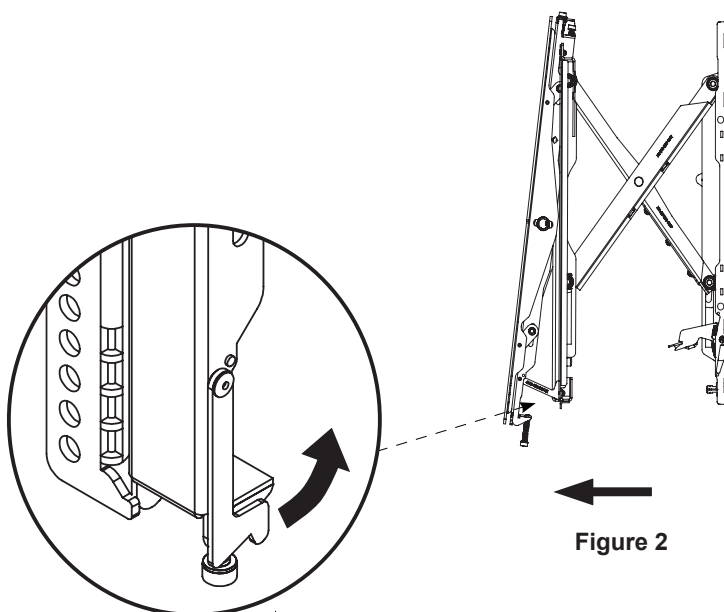

Figure 2
- 2) Slowly pull the front of the LMVS to extend the scissor arms (Figure 2).
- 4) Tilt up the bottom of the flat-panel, then set their kickstands against the bottom tubing of the mount (Figures 2 & 3).